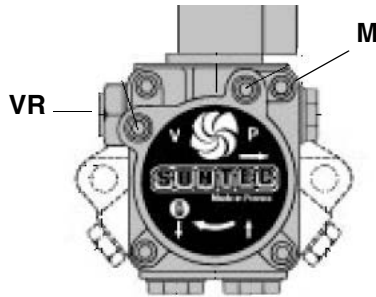

Fig. 20
- 3 bleed the air from the **M** pressure gauge port (Fig. 20) by loosening the cap without removing it, then release the contactor.